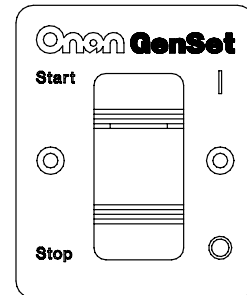

FIGURE 5-4. REMOTE SWITCH
- Remote start/stop switch with status indicator light only (Figure 5-4).